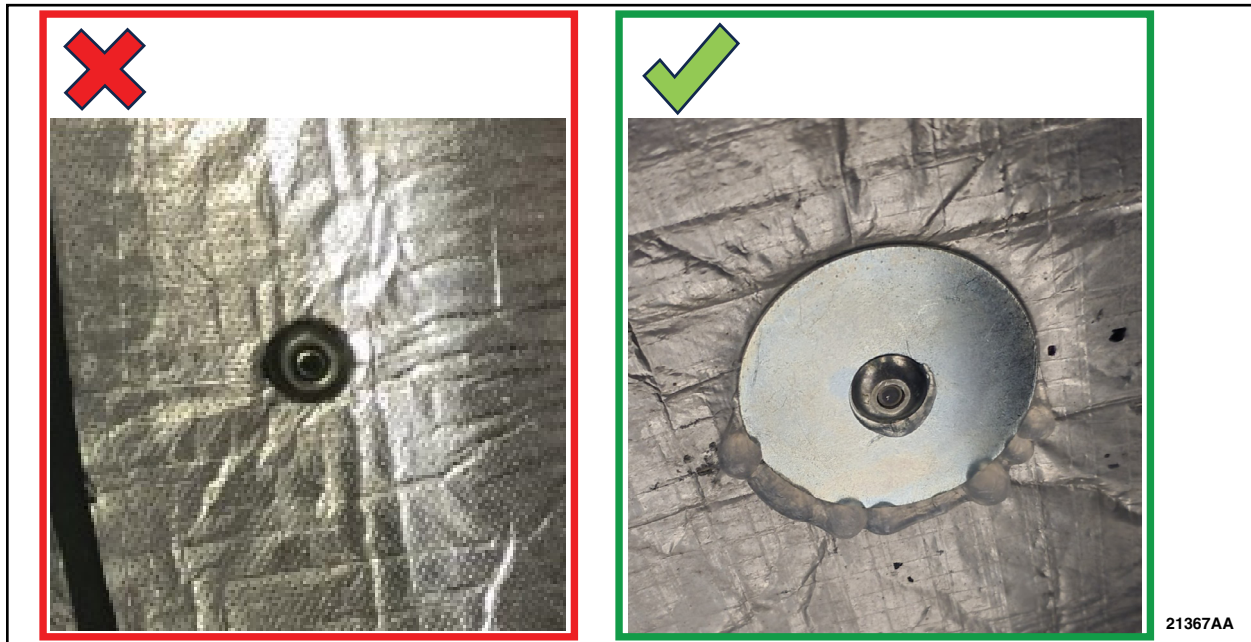

FIGURE 9
13. Using a M18-1/4" rivet gun, install the rivet and washer to the drilled hole. See Figure 9.